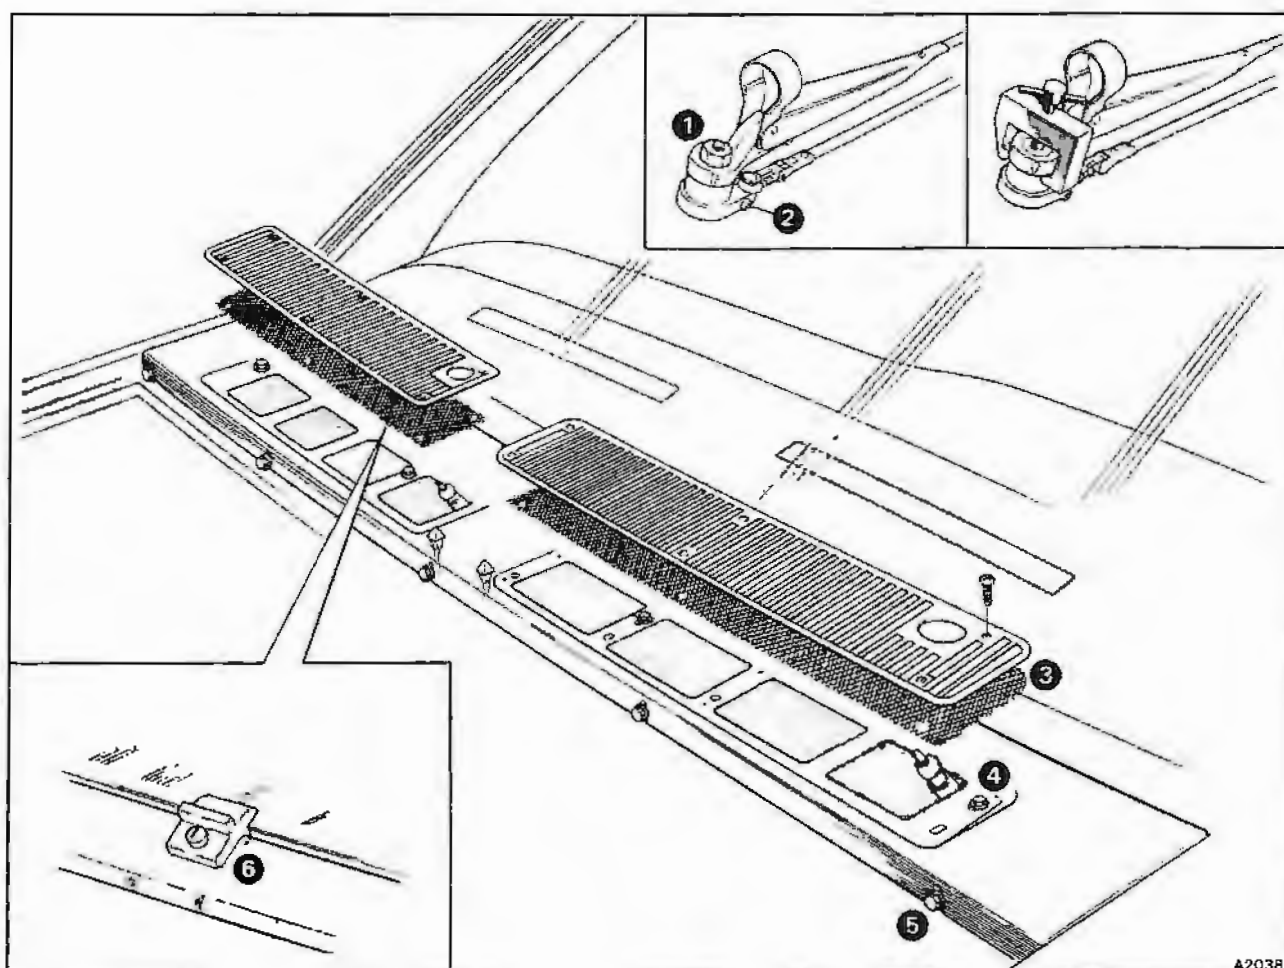

Fig. S8-1 Air intake grilles and scuttle panel
4. To remove the windscreen wiper arm assemblies proceed as follows referring to figure S8-1.